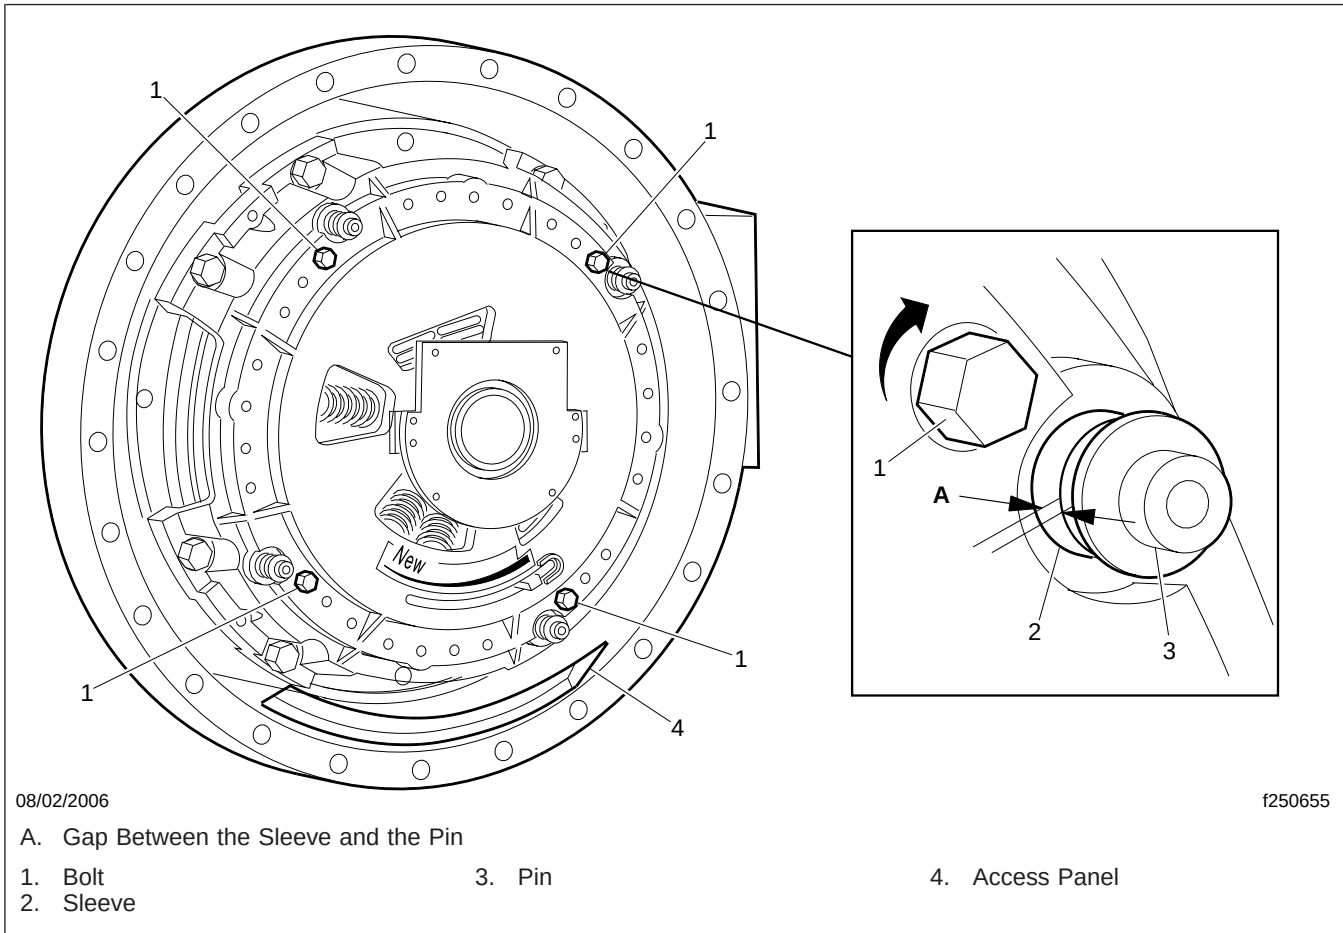

Fig. 2, Removing the Gap Between the Sleeve and the Pin
5. To remove the gap between the sleeve and the pin, install four 7/16–14 x 1-3/4 bolts (shipping bolts may be used when available), and use a hand tool to tighten them until the gap is removed and the bolts are snug. See Fig. 2.